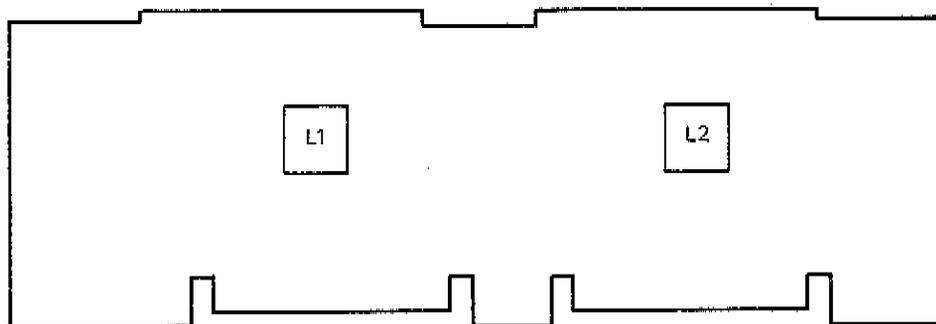

Figure 5-21 A50 Adjustment Locations
2. Tune A50L1 for a maximum amplitude reading on the 3570A. Note the reading. (See Figure 5-21 for Adjustment Locations).